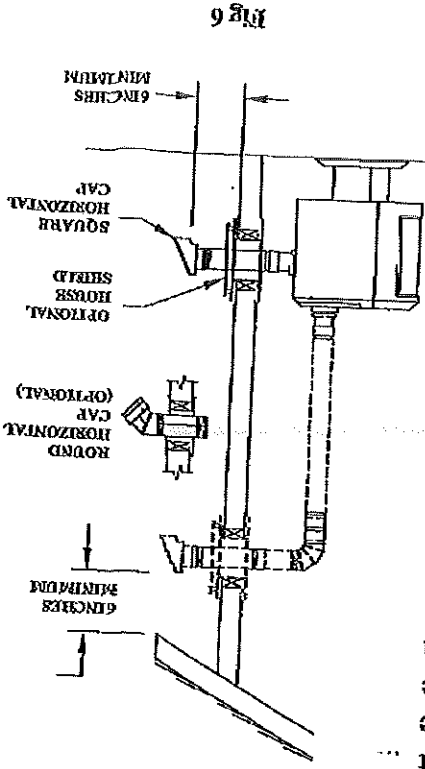

Fig 6
5. If the flue exits on back of the stove, and a horizontal through-the-wall installation is desired (Figure 6):